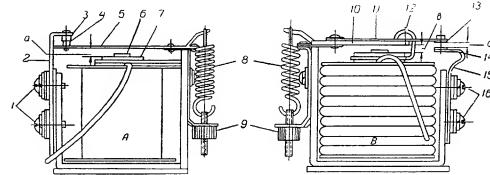

Fig. 39. Checking PPso Current and Voltage Regulator Clearances
Check the armature to core clearances on the voltage regulator and current limiting regulator (Fig. 39). The clearance should be 1.4 to
1.5 mm with closed contacts. Check the clearance as shown in Fig. 39. To adjust the clearance loosen the screws and move the contact bracket.